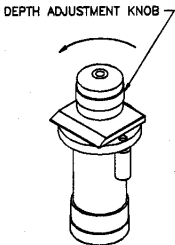

Figure 2-5— Removing Depth Adjustment Knob
2. Remove the Depth Adjustment Knob, (See Figure 2-5).